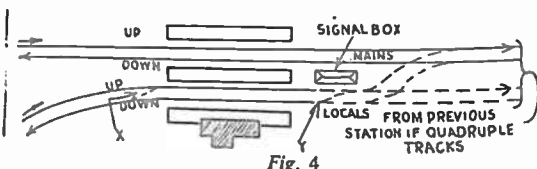

Fig. 4
The lid is just a flat block of wood 1in. thick cut to fit neatly inside the press, leaving a margin of not more than 1/4in. round the sides. The fulcrum is fixed across the centre (see Fig. 4), and this also acts as a handle for lifting out the block. Cut a length of 1in. square wood 4 1/2ins. long, taper and round off the top as in Fig. 4, and fix in position with two brass screws. If the screws are inserted from underneath they must be filed off flush, but it is better, however, to fix them from the top.
If parallel tracks are run in quadruple form (a very rare occurrence in model form) as shown in Fig. 4, it is obvious that branch-line stopping trains are held clear of the actual junction without the use of either a burrowing junction or a fly-over junction; though branch-line trains can arrive at the station platforms to be reversed and run back if cross-overs for engine round are duly provided at (X) and (Y).